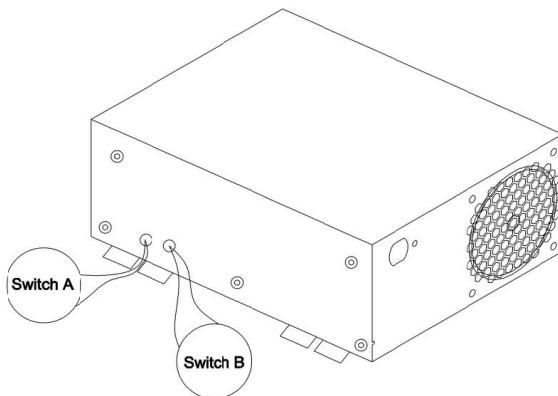

Figure 3
12.Switch A and Switch B: Switch A is a three-segment selector switch that selects Acid Mode/Fixed Output Mode/Lithium Mode from left to right. Switch B is an adjustable potentiometer that adjusts the 13.0V-16.5V output voltage range from clockwise in the fixed output mode state (switch B is not adjustable in acid mode/lithium mode).(Figure 3).